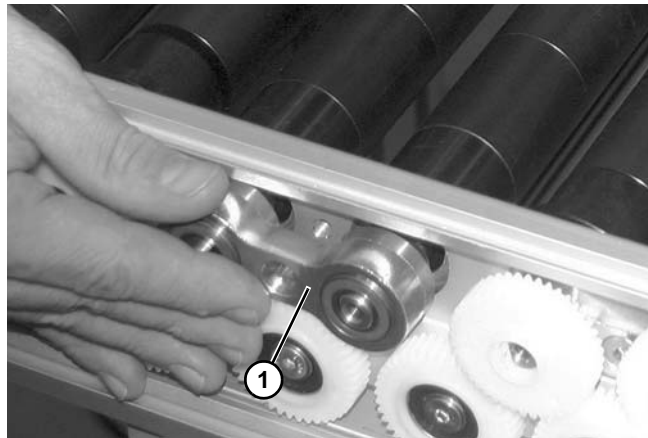

Figure 119
9. Remove bearing assembly (Figure 119, item 1) from the conveyor frame.